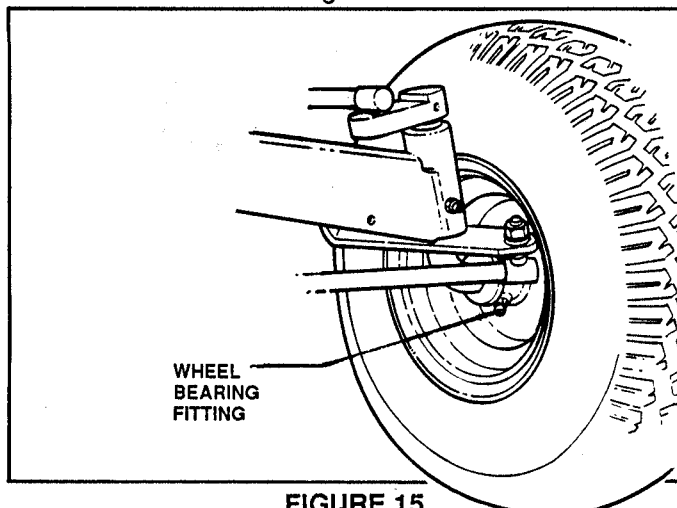

FIGURE 15
- **FRONT WHEEL BEARINGS:** Lubricate bearings through the fitting on hub of each front wheel. See Figure 15.